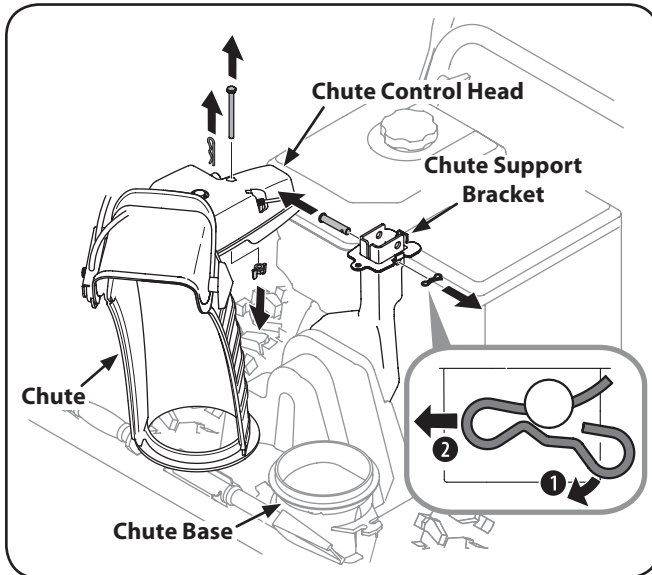

Figure 3-10
1. Remove cotter pin, wing nut and hex screw from chute control head. Remove clevis pin and bow-tie cotter pin from chute support bracket. See Figure 3-10.
8. Finish securing chute control head to chute support bracket with wing nut, clevis pin, and bow-tie cotter pin removed in step 1. See Figure 3-10.